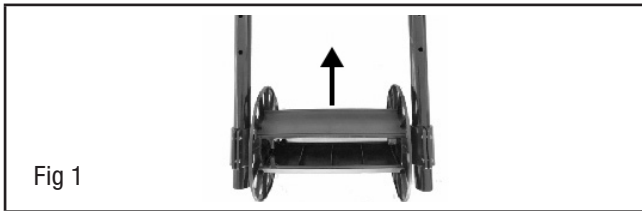

Fig 1
1. Install the hose reel onto the upper frame in the direction of the arrow (Fig 1)